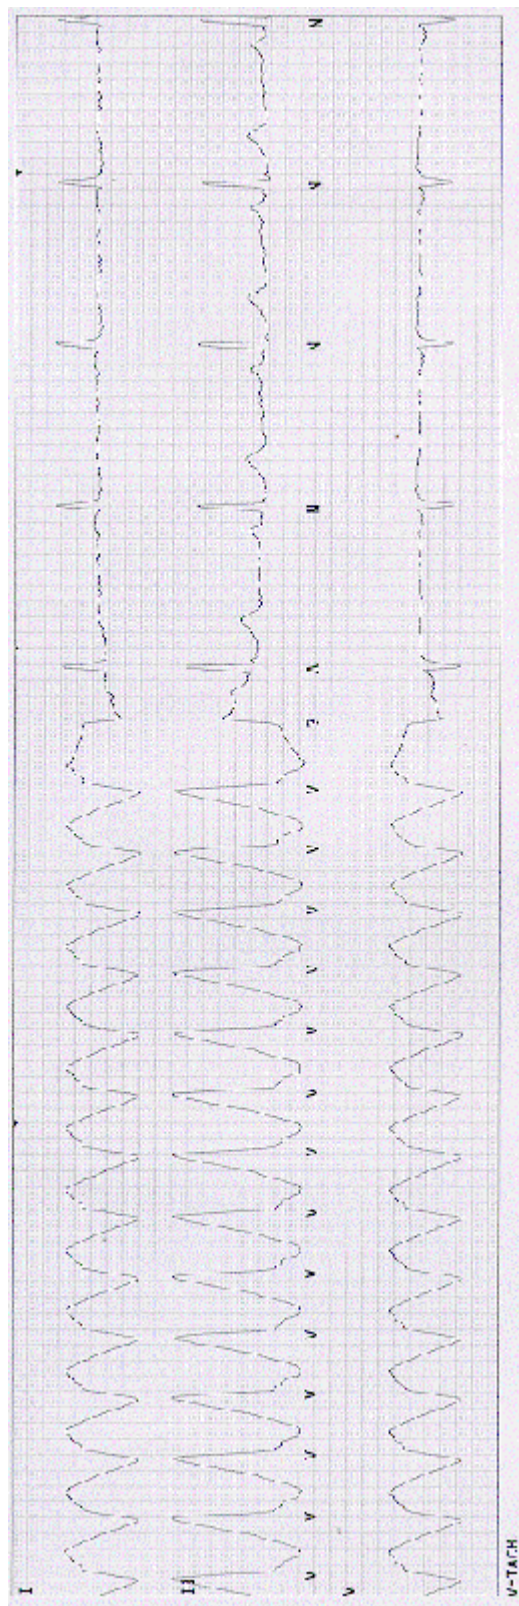

Fig. 113. Zoomed-In Full Disclosure Example
- an annotated zoomed-in printout of the Full disclosure with Leads I, II and V. Ideally, start recording ten seconds prior to the event and continue through the event in question (see Figure 113 on page 224).